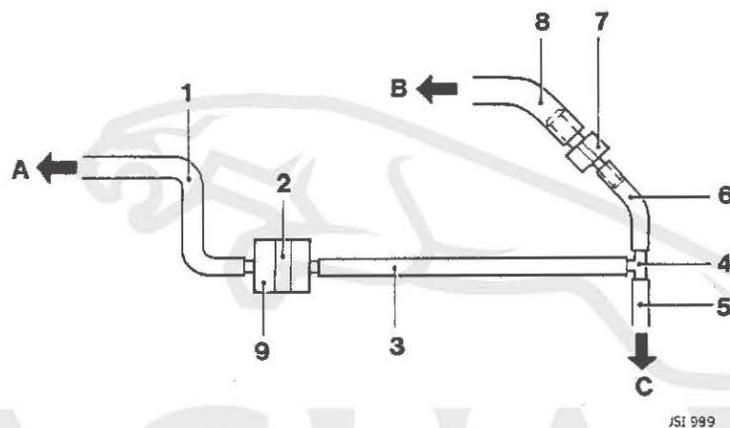

FIG 1
15. Assemble vacuum system sub-assembly shown in Fig. 1 and connect as illustrated to throttle edge tapping, vacuum regulator and three-port thermal vacuum valve.